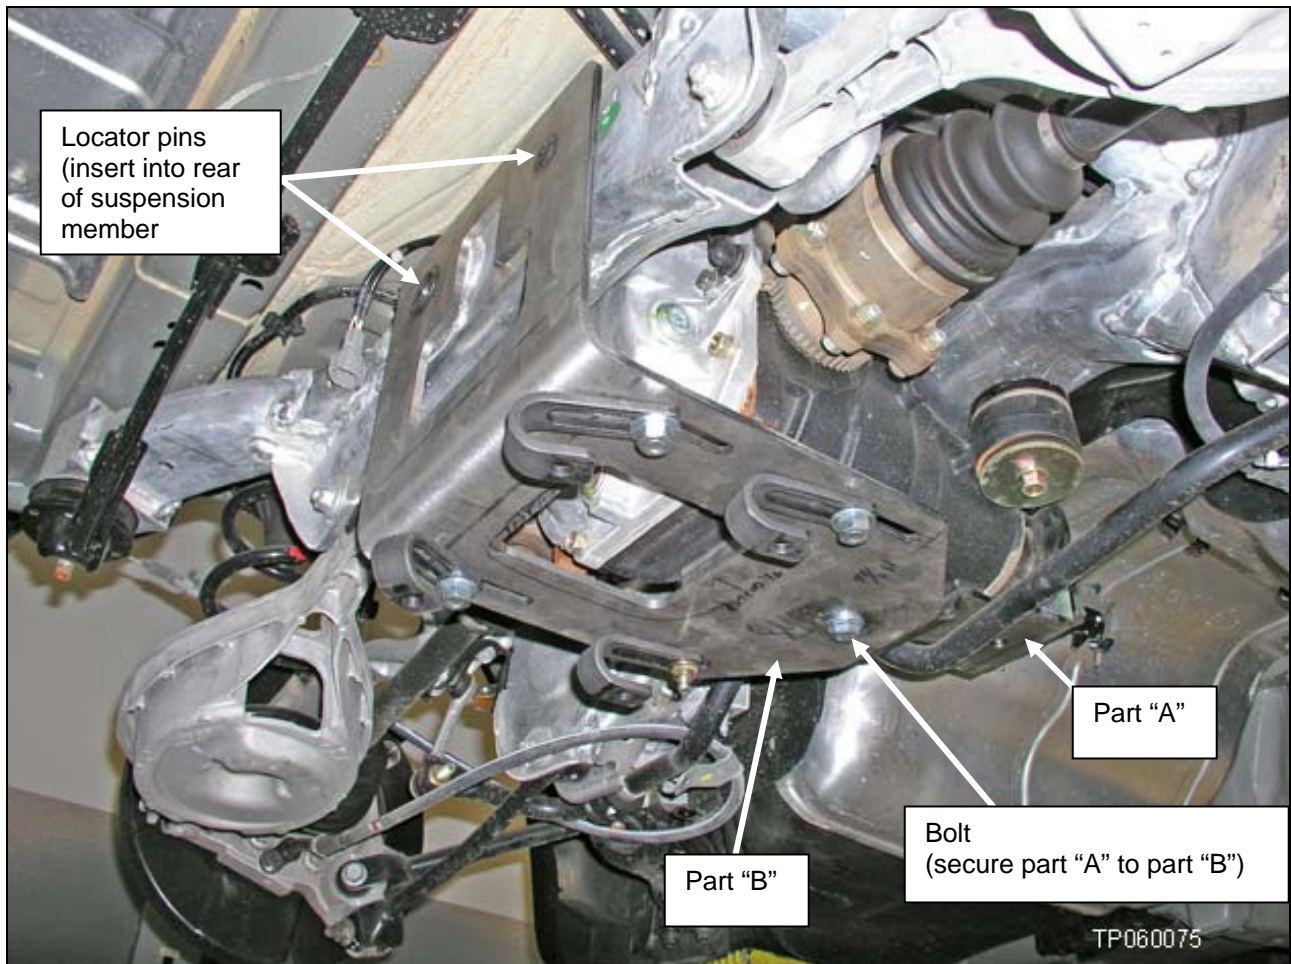

Figure 24
- b. Slide part "B" of the adapter tool over the rear of part "A". Then, insert the locator pins at the upper corners of the tool into the rear suspension member (see Figure 24).